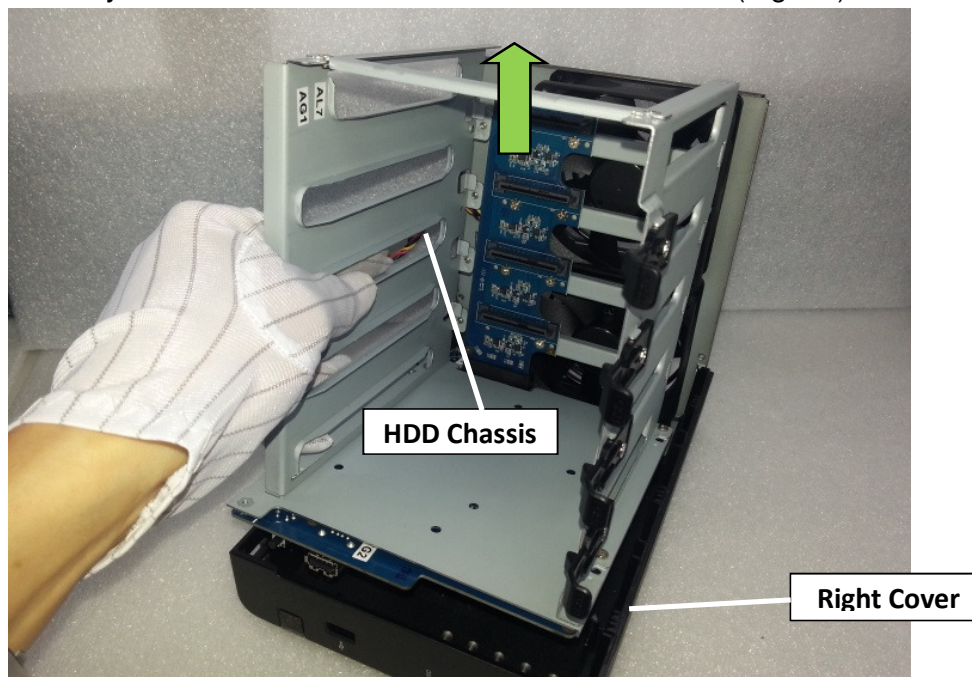

Fig. 19
- 2.1.12 Then slowly remove the HDD chassis from the enclosure. (Fig. 19)